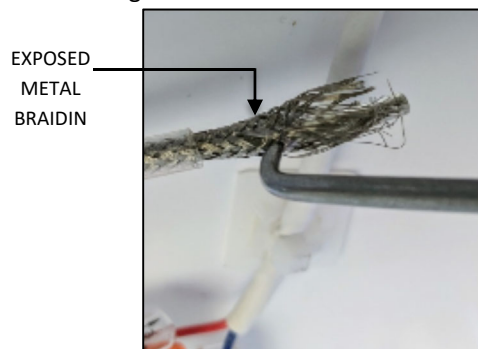
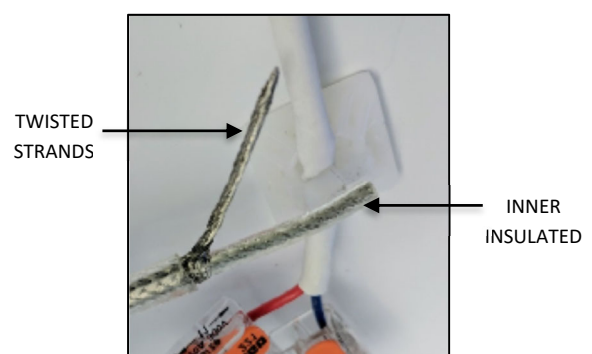

FIG. 29
FIG. 30
2. Using a small pointed object, begin unweaving the exposed metal braiding as shown in FIG. 29 below. Position the unwoven metal strands on one side of the inner insulated wire and twist the individual strands together as shown in FIG. 30 below.